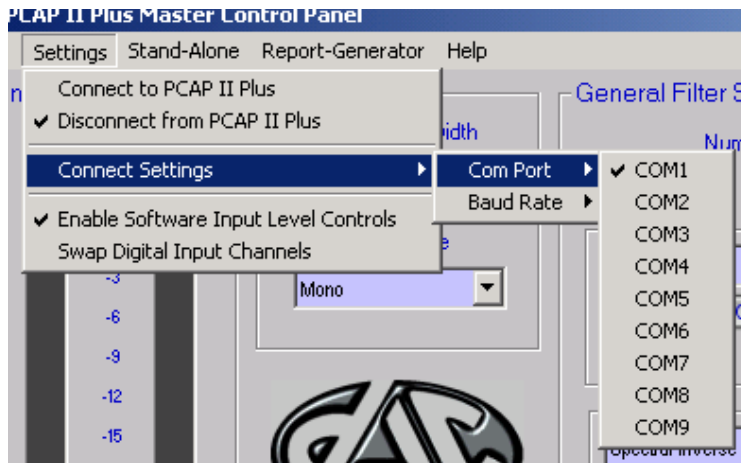

Figure 6-1 Com Port Selection Menu
2. When the pulldown menu appears, click on "Com Port". The display will now appear as follows (Figure 6-1).